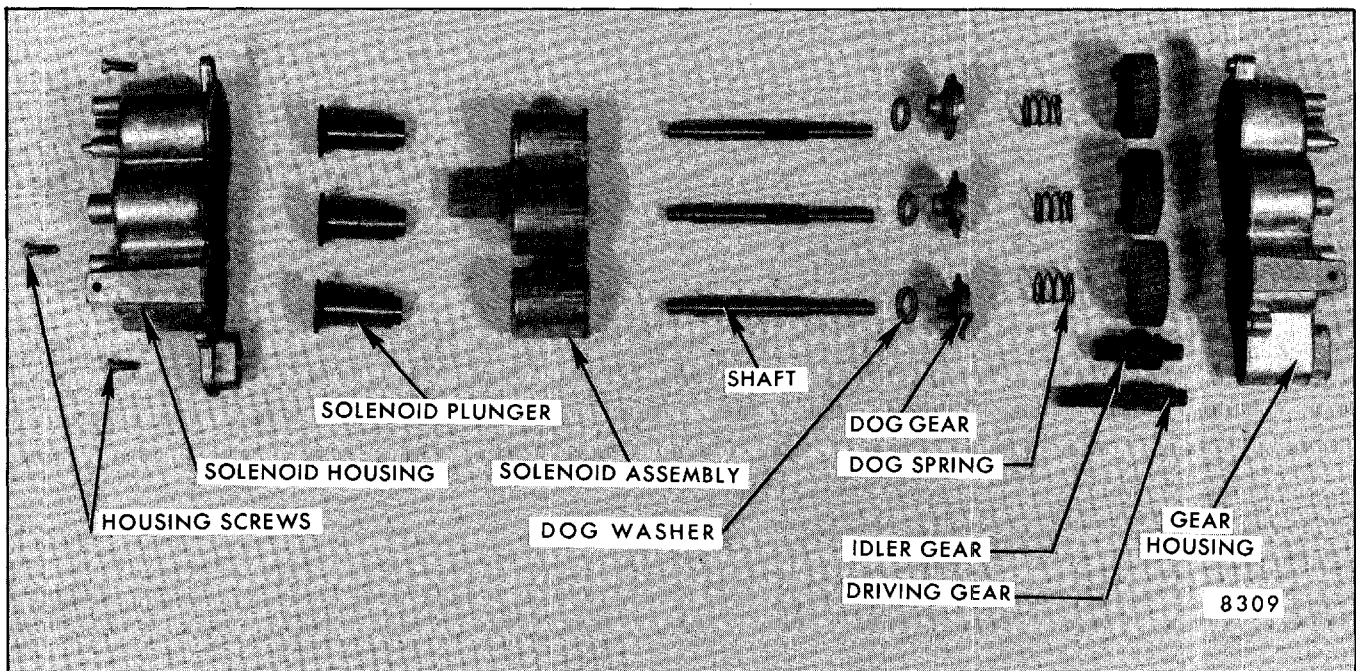

Fig. 9-54-Six-Way Seat Adjuster Transmission Component Parts for 60-40, 50-50 (Except 6CB69 Style), 45-55 and Bucket Seats
2. Remove screws securing rear gear housing to the solenoid housing; then carefully separate housings and remove component parts of transmission assembly (Fig. 9-54 or 9-55).